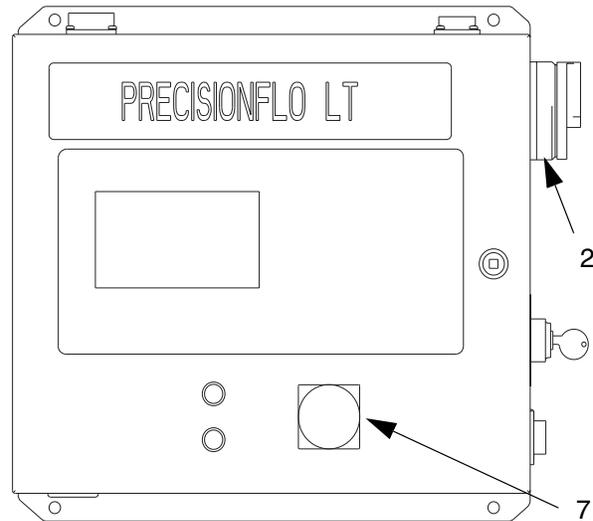

FIG. 20
4. Press the sealer stop button (7). See FIG. 20.
5. Turn off the main electrical disconnect (2).